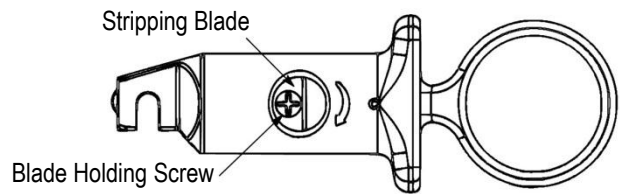

Figure 6
**6. REPLACING THE CABLE JACKET STRIPPING BLADE** (Figure 6)